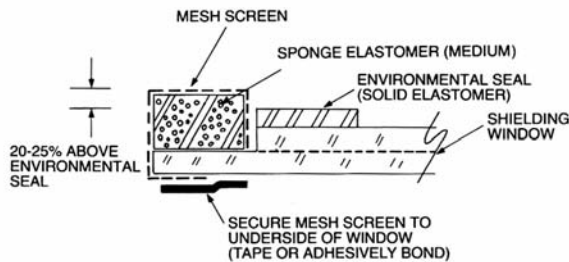

Figure 6-3. Wrap Around Screen, Direct Contact (Most Commonly Used Configuration).
2. Wrap-Around, Direct Contact, Self Gasketing: The mesh screen is wrapped over a sponge or hollow core elastomer gasket and secured to the underside of the window (Figure 6-3). The use of elastomer moisture barrier and shock mounts to protect the window and screen from possible adverse environment is recommended.